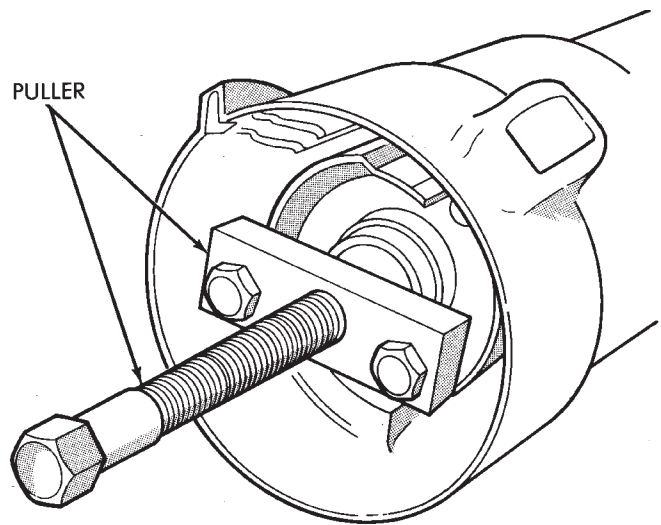

Fig. 18 Shift Tube Removal
(40) Remove the retaining screws and shift gate from the steering column support.
(41) Remove the retainer and the bearing from the lower end of the steering column.
(42) Remove the shift tube retaining ring and the thrust washer.
(43) Remove the shift tube from the steering column jacket with Shift Tube Remover C-4120 (Fig. 18).